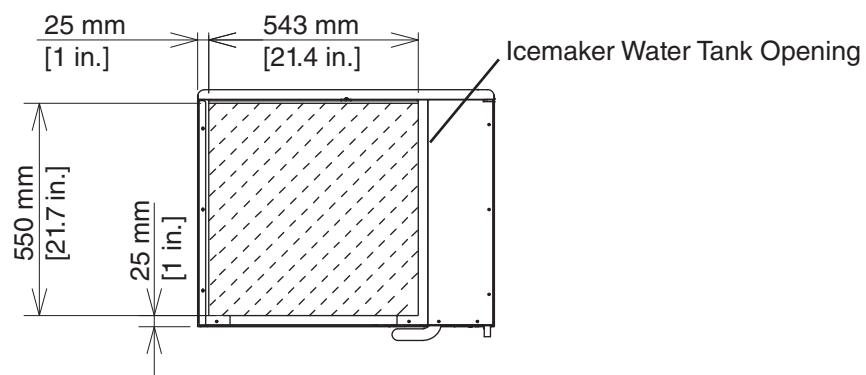

Fig. 5
- 3a) **Dispenser Unit:** Install the dispenser unit adapter kit. Make sure the dispenser unit adapter kit opening and the icemaker water tank opening match. If not, cut the dispenser unit adapter kit to the dimensions needed to match the icemaker water tank opening. **NOTICE! The dispenser unit adapter kit opening MUST match the icemaker water tank opening. A smaller opening may result in water leaking. Seal the adapter kit to the dispenser unit with RTV-748 sealant (provided) or equivalent.** See Fig. 5.